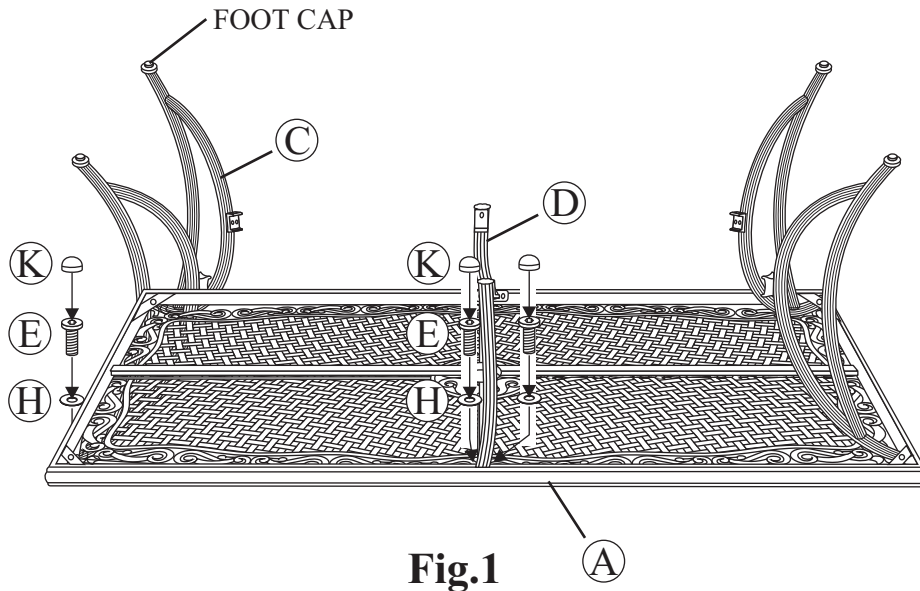

Fig.1
- 1 Place the table top upside down on a flat, non-abrasive surface. Attach table leg to table top by using a 1/4"x20 mm bolt and a washer as shown in **Fig.1**. Place the leg beneath the table rim corner bracket. Guide the bolt through the hole in the table rim and into the pre-drilled hole in the table leg. **Hand tighten only**. Repeat for the other three legs. Attach the topside support to the table top by using two 1/4"x20 mm bolts and washers as shown in **Fig.1**. **Hand tighten only**. Repeat for the opposite side.
- 1 Working from behind the chair, have another person stand in front of the chair and position the sling seat frame in between the arms of the seat base as shown in **Fig.1** so that the holes on both sides of the upper portion of the seat frame back align with the fixed nut holes in the seat base.